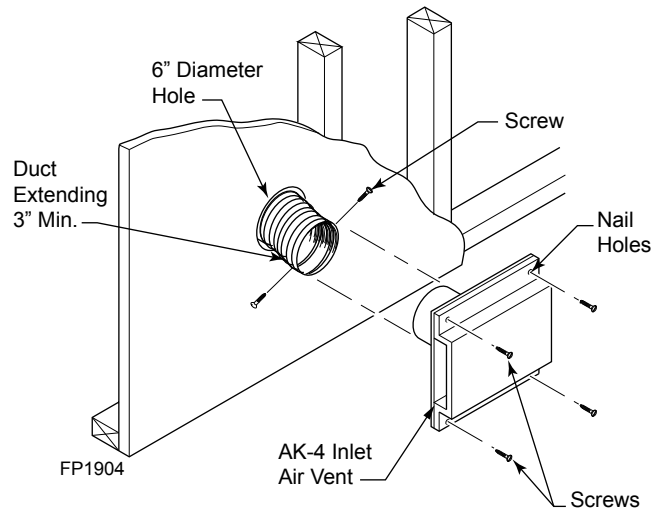

Figure 66 - Combustion Air Assembly for Model No. AK-4
4. Attach outside duct to starting collar with duct clamp or screws. *Figure 66*
5. Cut a 6-inch diameter opening for model AK-4 in the outside wall covering where the outside vent is to be located. *Figure 66*